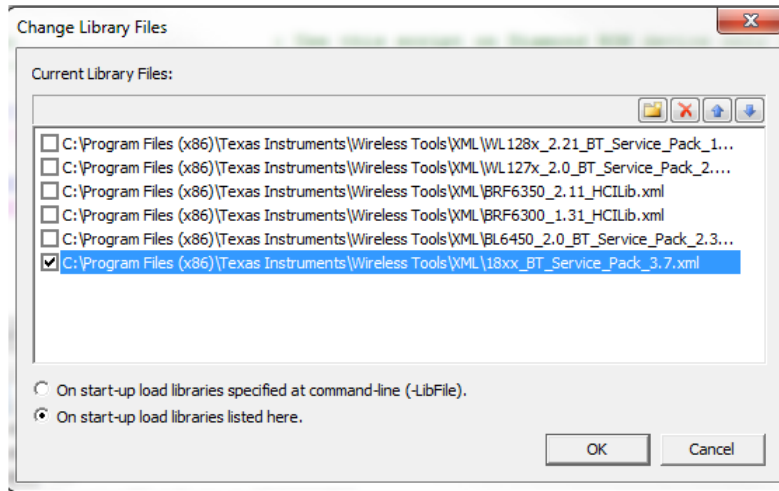

Figure 4. Changing the XML File
2. To open the Change Library Files dialog box, click the Change Library button (for more information on the Change Library button, see Table 11). The Change Library Files dialog box displays (see Figure 4).